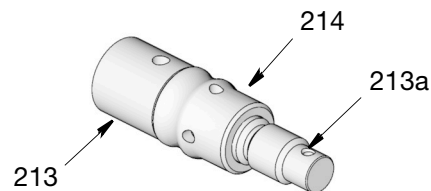
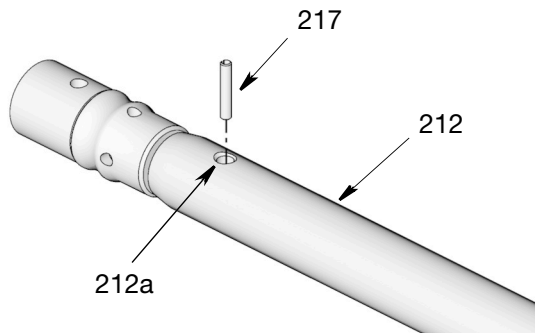

FIG. 38
FIG. 39
5. Slide together piston rod (213) and piston seal (214) (FIG. 38).
6. Thread piston rod (213) into end of displacement rod (212). Hand tighten the two pieces together securely, ending with hole (213a) (FIG. 38) aligned with hole (212a) (FIG. 39).
7. Install pin (217) through the aligned holes [(213a (FIG. 38) and 212a (FIG. 39)]. Support rods (212 and 213) as needed to ensure the rods do not bend. Use a pick and hammer to seat the pin inside the rods.